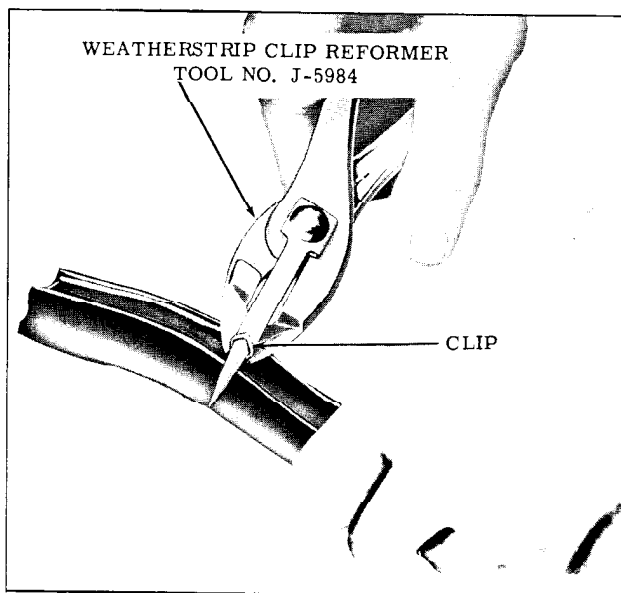

Fig. 15-40 Reforming Weatherstrip Clips with Tool J-5984
2. Check weatherstrip clips for proper contour and reform clips, where required, using Clip Reforming Tool J-5984. (Fig. 15-40)